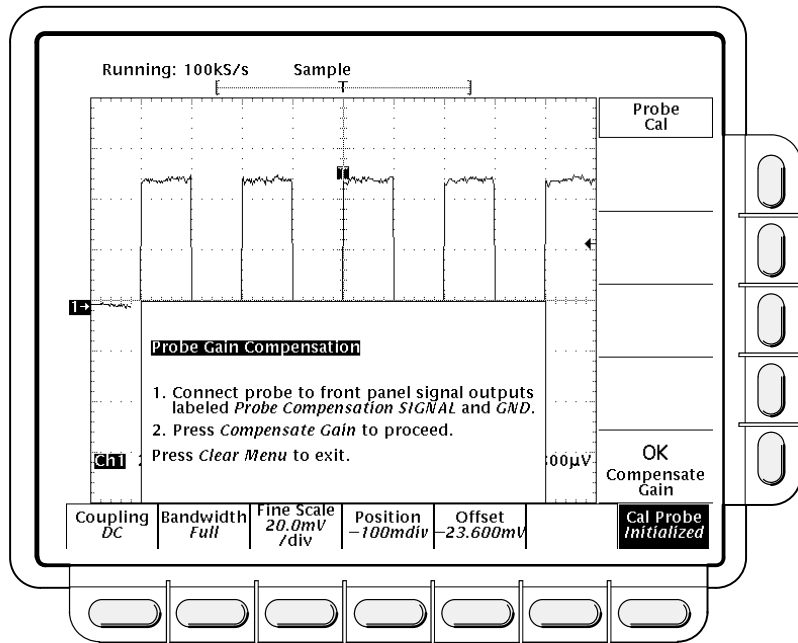

Figure 3-35: Probe Cal Menu and Gain Compensation Display
The oscilloscope will detect the type of probe you have installed and display on-screen messages and menu choices for compensation of probe gain, offset, or both (see Figure 3-35). Follow these steps to run probe gain, offset, or both depending on the probe used.
18. After the clock icon disappears, verify the word **Initialized** changed to **Pass** under **Cal Probe** in the main menu. (See Figure 3-35.)